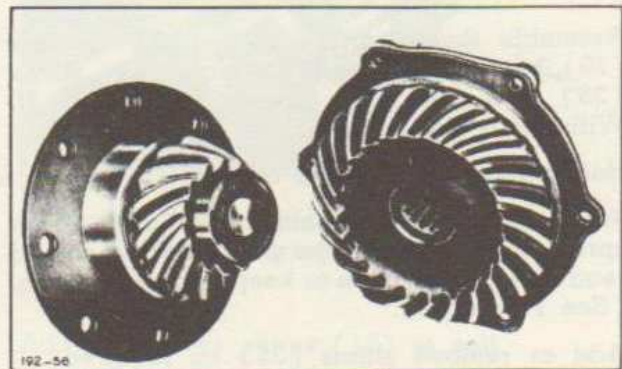

Fig. 60—3rd Reduction Gears Removed to Note Imprint due to Tooth Contact
Turn wheel hub in both directions, to load both driving and coasting sides of teeth. Remove plug (84) and examine mesh thru inspection hole or preferably withdraw gears to note nature of tooth contact. (See Figure 60).